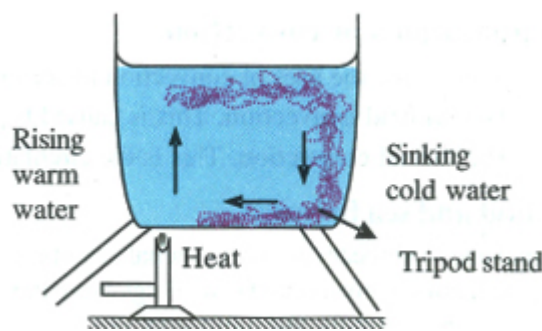

Figure 8.3 Convection current in liquid
- Carefully drop a crystal of potassium permanganate at the bottom of beaker filled with cold water as shown in Figure 8.3.